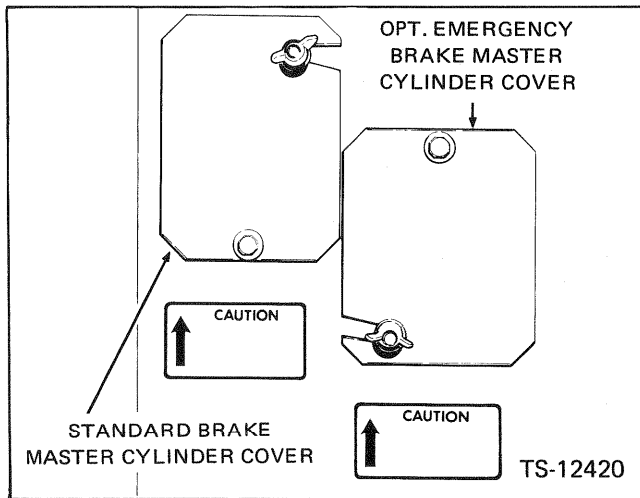

Fig. 13-2 Master Cylinder Locations
1. Fill the master cylinder with fluid. (Refer to Fig. 13-2.)